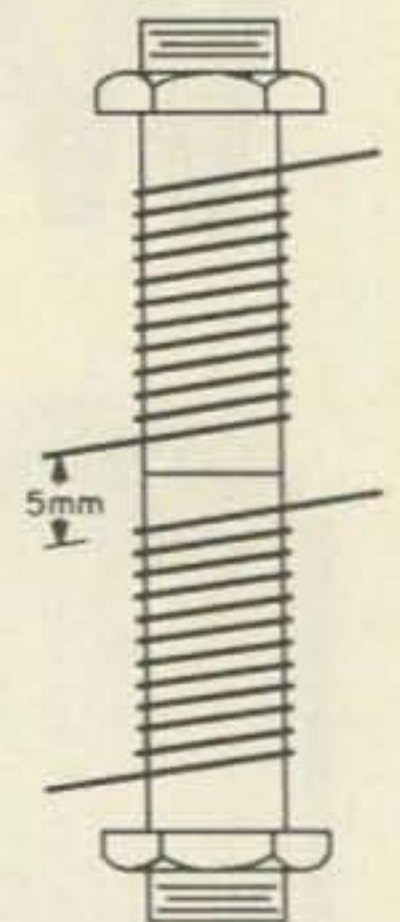

FIGURE 3
- L8—11 turns #20  $\frac{3}{4}$ " diameter  $\frac{3}{4}$ " long with a 20 mmfd trimmer across the coil. This coil is tuned to 30 mc. proximately  $\frac{3}{8}$ " in diameter which are joined together as shown in Fig. 3. Standard 21 mc television *if* transformers can be substituted.